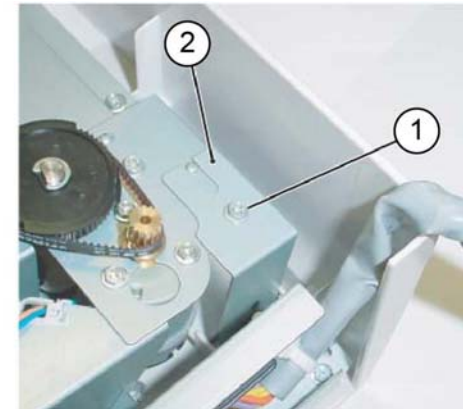

Figure 1 Rear bracket removal
5. Remove the rear bracket, Figure 1:
- a. Remove the screw (1).
- b. Remove the bracket (2).